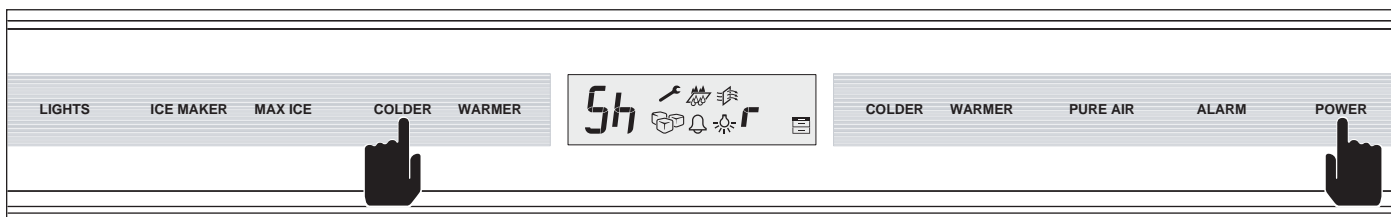

Figure 3-63. If Initiating Diagnostic Mode and “SH” and “r” appears in LCD, unit is in Show Room Mode
- If “Sh” and “r” appear in the LCD when initiating Diagnostic Mode (See Figure 3-63), the unit is in Showroom Mode which was covered earlier in this section.